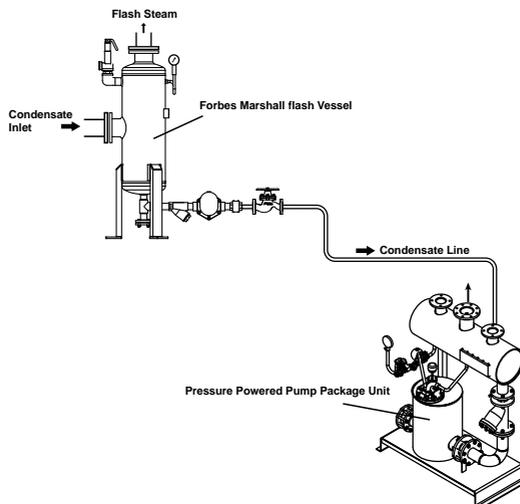

Figure 3: Installation of Forbes Marshall flash Vessel with PPPPU
5. Installation Guidelines: (Refer to Figure 3)